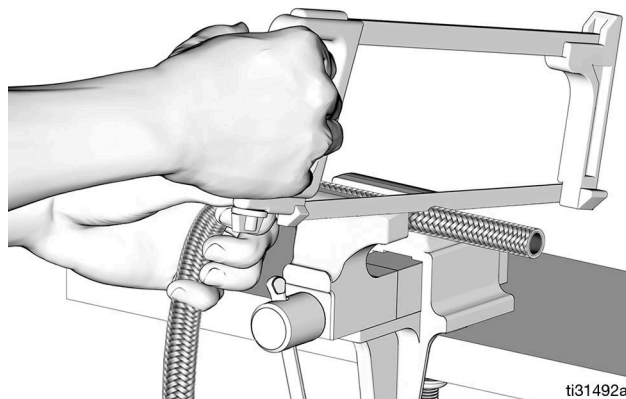

FIG. 64
2. Cut the hose square with a fine-tooth hacksaw or a cut-off wheel (FIG. 64).